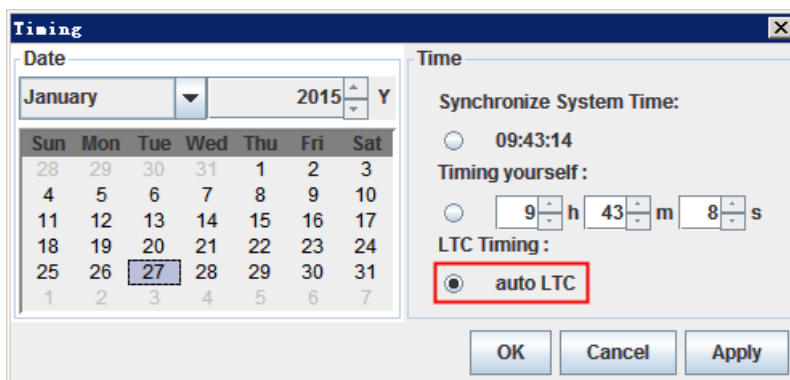

Figure 4.2-11 Selection of Timing Method-LTC
- (1) Connect a LTC timing device through the LTC port. The LTC external device receive a timecode input signal to keep synchronous with the system clock, and the timecode conforms to the SMPTE12M (EBU-3259-E) standard.
- (2) Timing operation: click the manual timing button , it will pop up the timing window, select LTC timing in the timing dialog box, as shown in Figure 4.2-11: